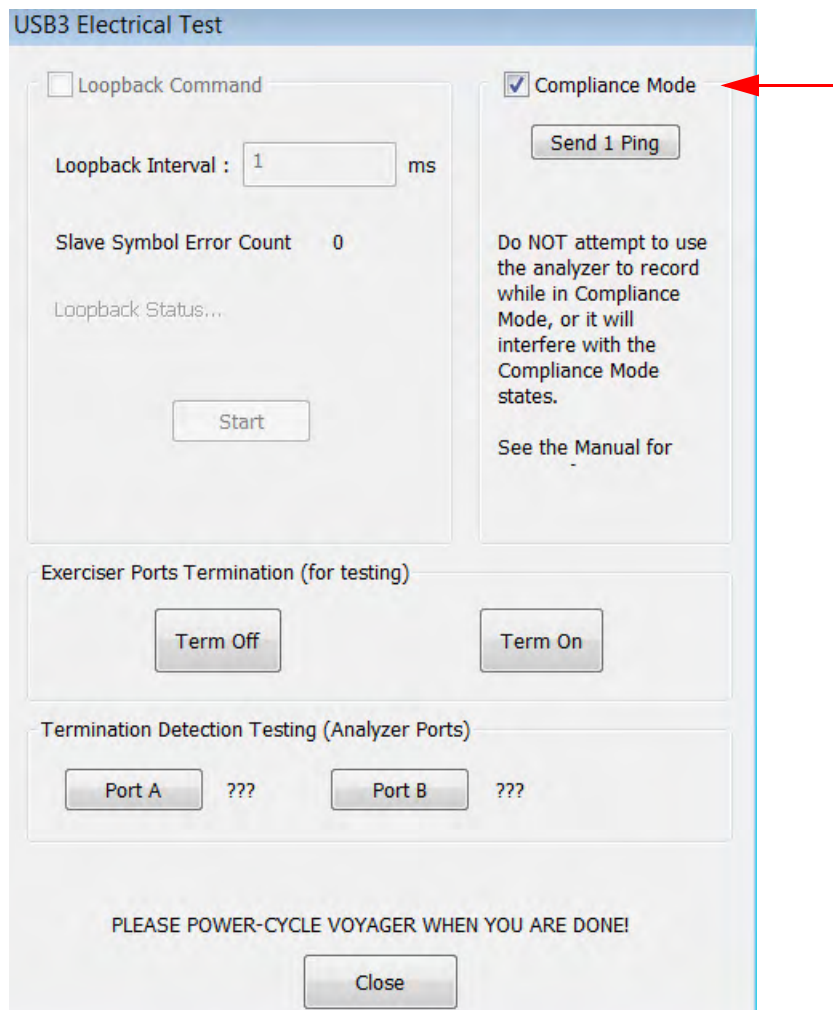

Figure 12.18: USB 3.1 Electrical Test Dialog
4. In the USB 3.1 Electrical Test dialog, check the **Compliance Mode** box (see Figure 12.18 on page 470.)